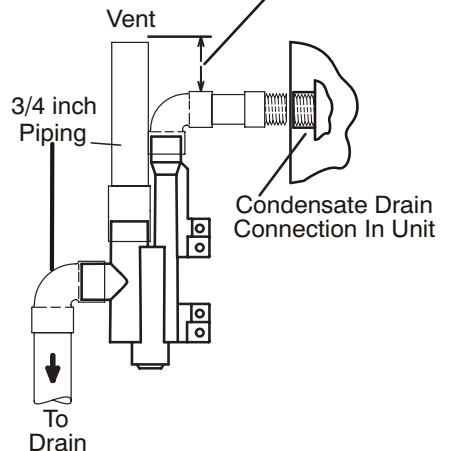

FIGURE 41
3. Install the cap over the clean out opening at the base of the trap. Secure with clamp. See Figure 41.
4. Install drain trap using appropriate PVC fittings, glue all joints. Glue the provided drain trap as shown in Figure 41. Route the condensate line to an open drain. *Condensate line must maintain a 1/4" downward slope from the furnace to the drain.*